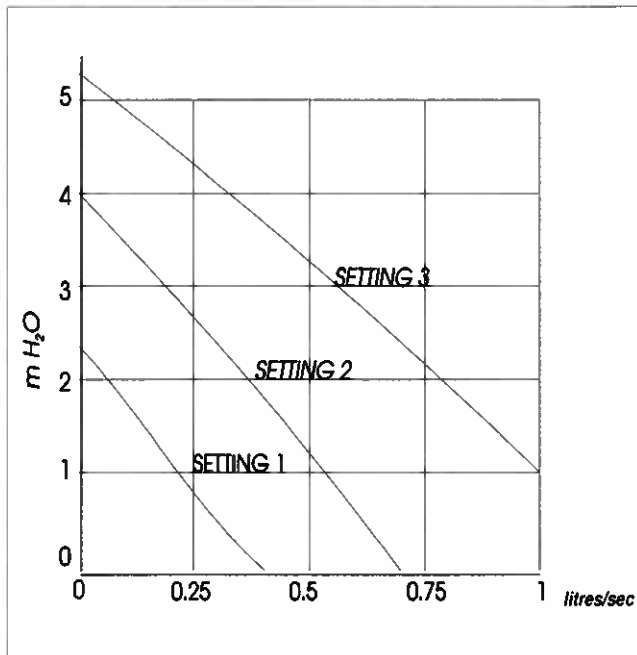

Figure 2.6 Performance Characteristics of Grunfos UPS 15-50 Pump
7. The performance characteristics of the system pumps is given in Figures 2.6 and 2.6a.